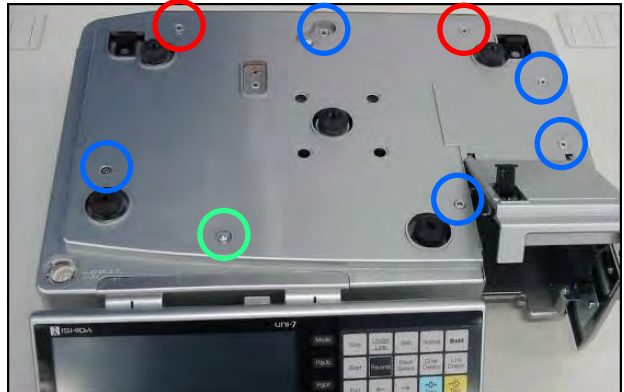

Figure 18. Remove Upper Cover
- e. Remove the five machine screws (blue), two tapping screws (red), and one TP screw (green). See Figures 18.